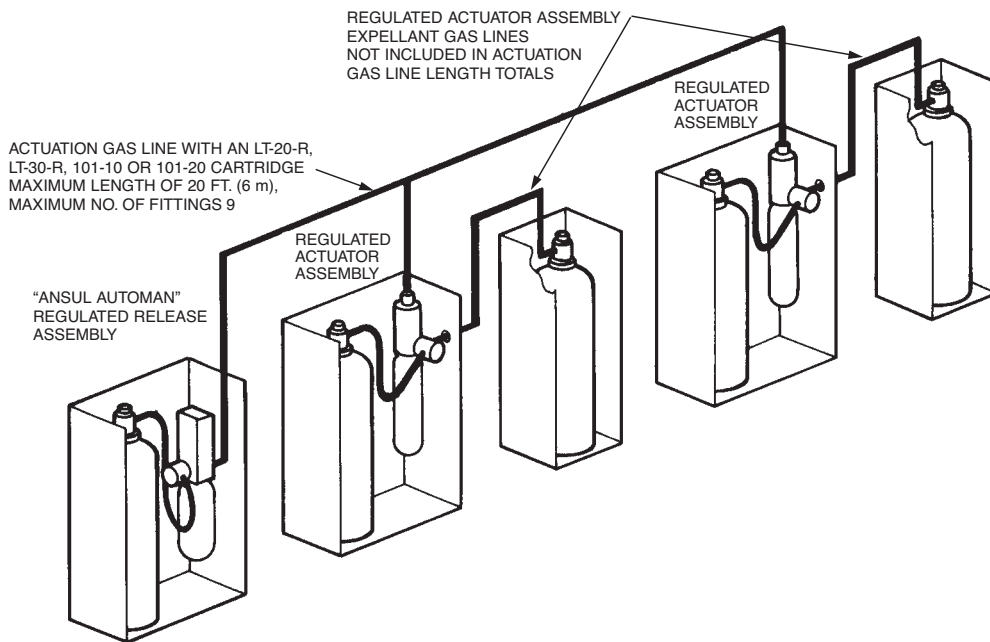

FIGURE 80
2. The actuation gas line piping is installed from the regulated release mechanism to each regulated actuator connected within the system. The total length of the actuation gas line from the regulated release assembly to the regulated actuator assembly(ies) **must not exceed** 20 ft. (6 m) when using an LT-20-R, an LT-30-R nitrogen cartridge, or a 101-10 or a 101-20 carbon dioxide cartridge. See Figure 80.